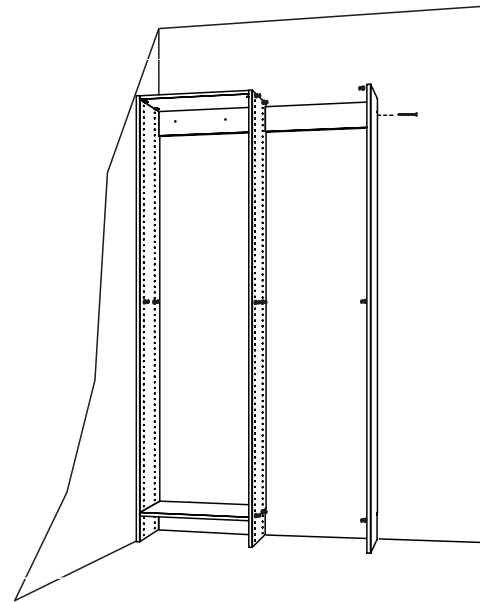

Fig. 10
10. Attach another panel (thru-drilled or stop-drilled) to the cleat. Secure cleat through second panel with one (1) HiLow Screw. See Fig. 10.